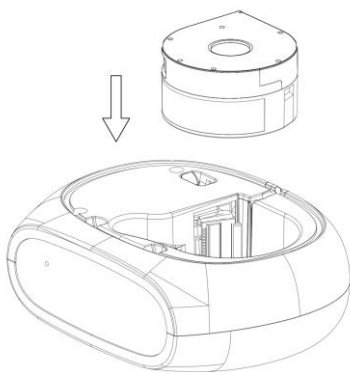

Figure 2-1 Installation Diagram of Label Box
2.1.2 Insert the label box into the printer as shown in Figure 2-1. Close the printer cover.